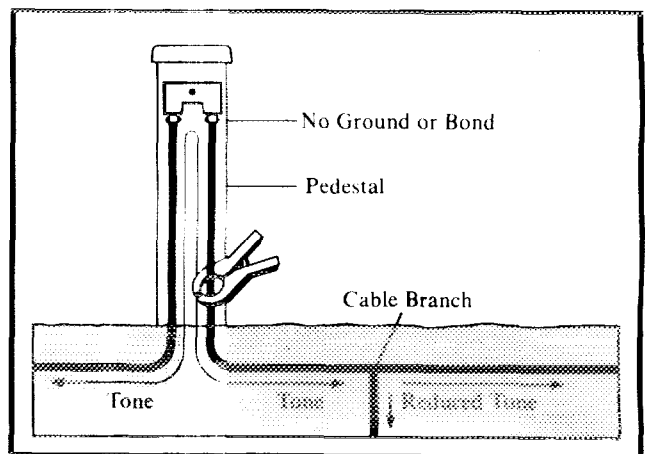

Figure 9 Reduced Tone at Cable Branch
4. **REDUCED TONE AT BRANCH:** When tone is applied to a cable which has a branch, the tone will be split and be effectively decreased relative to each conductor's length and size. (See Figure 9)